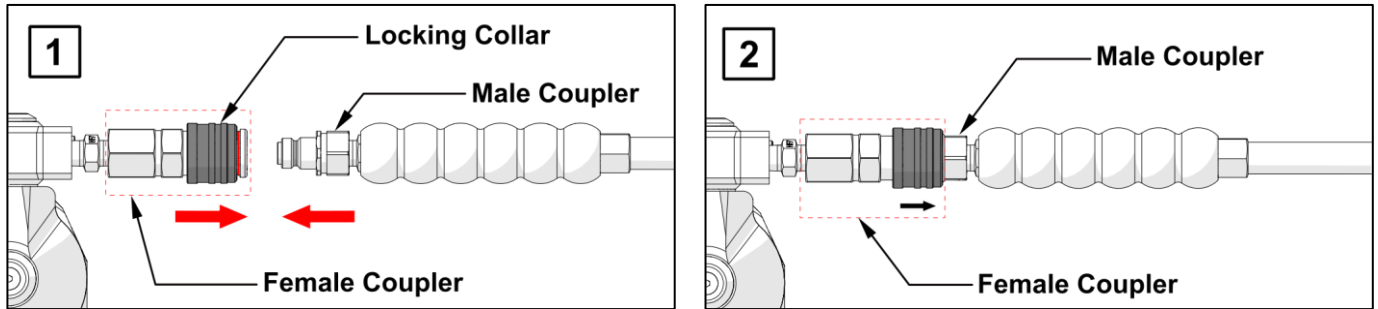

Figure 5.1: Hydraulic Connections
5.3.1 Connections (See figure 5.1 below)